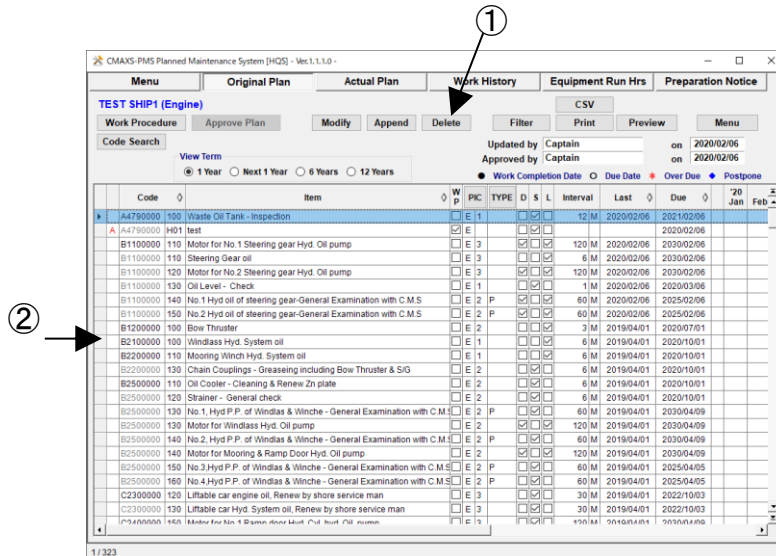

Fig.11-10 Original Plan screen
(1) If you want to delete Crew's job, select the Delete button on the "Original Plan Screen" (Figure 11-10). You will be prompted to select OK.
(2) The deletion mark (D) appears on the left side of the deleted work item.